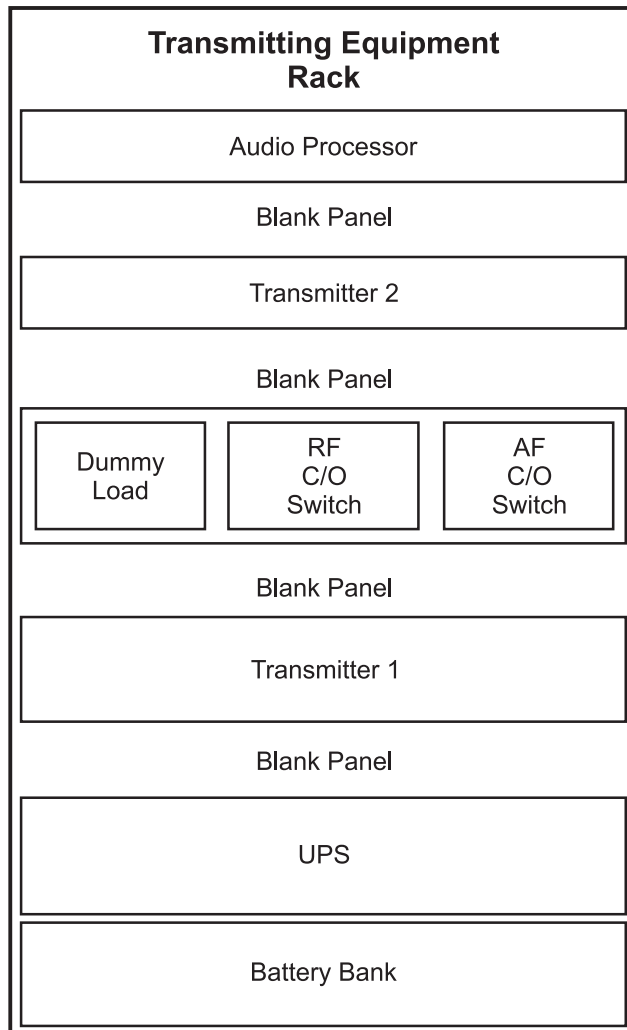

Figure 27.3: Suggestive layout plan of transmitters and associated equipment.
However, a suggestive lay-out plan for mounting the equipment is shown in Figure 27.3 for the purpose of proper understanding. Optional items like UPS, Audio Processor and Auto Change-over switch have also been shown.
As may be seen in Figure 27.3, note the position of transmitters and other components in the rack. Battery bank has been provided at the bottom followed by UPS over it. A blank panel has been provided between equipments for proper air circulation and ease of removal while servicing. Dummy load and change over switch has been provided in the centre. Audio processor has been mounted on the top section.
- Follow the lay-out plan issued by the supplier otherwise use the suggestive lay-out plan given in Figure 27.3 above.